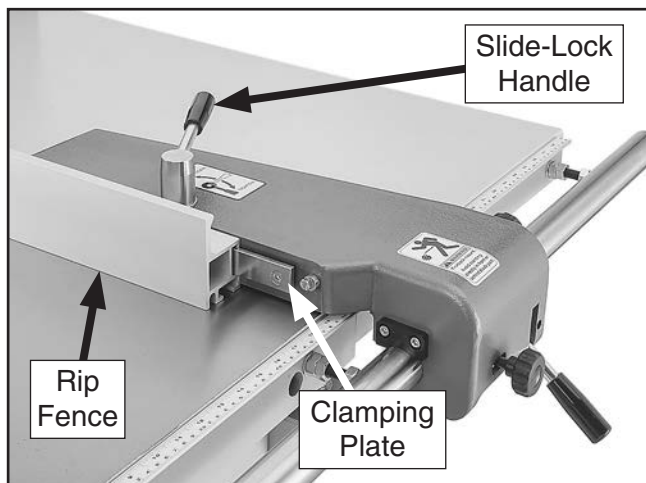

Figure 29. Rip fence attached to rip fence base.
20. Slide rip fence onto clamping plate, as shown in **Figure 29**, and lock it with slide-lock handle.